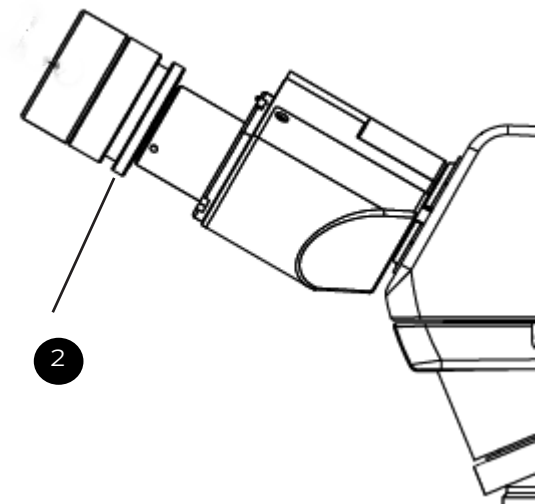

Fig. 10
4. Adjust the diopter on your dominant-side eyetube by rotation the diopter ring ② until the image is clear and in focus (See Fig. 10)